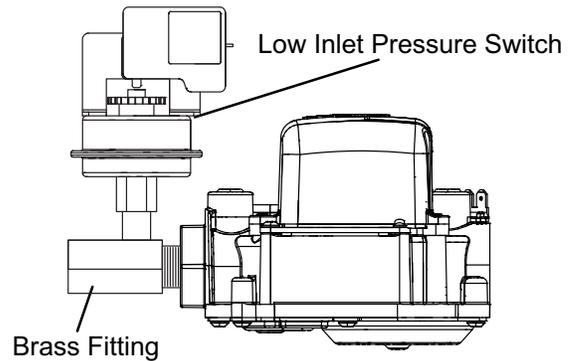

FIGURE 2
- 2 - Remove the heating compartment access panel. Turn the automatic gas valve switch to the **OFF** position. See figures 2 and 3.
- 9 - Thread provided brass fitting to gas valve inlet until hand tight. Using properly sized wrench, tighten fitting 2 to 3 full turns being careful to position the side port to allow clearance for the pressure switch and harness. See figure 2.
NOTE - Some installations may require the pressure switch and fitting assembly to be positioned differently than shown in figure 2.
When testing supply gas pressure, use the 1/8" N.P.T. supply line tap located on the gas valve to facilitate test gauge connection. See figure 2. Check gas line pressure with unit firing at maximum rate. Low pressure may result in erratic operation or underfire. High pressure can result in permanent damage to gas valve or overfire.
- 1 - Connect test gauge to manifold pressure tap (figure 2) on gas valve.
- 4 - If necessary, make adjustments. Figure 2 shows location of adjustment screw.